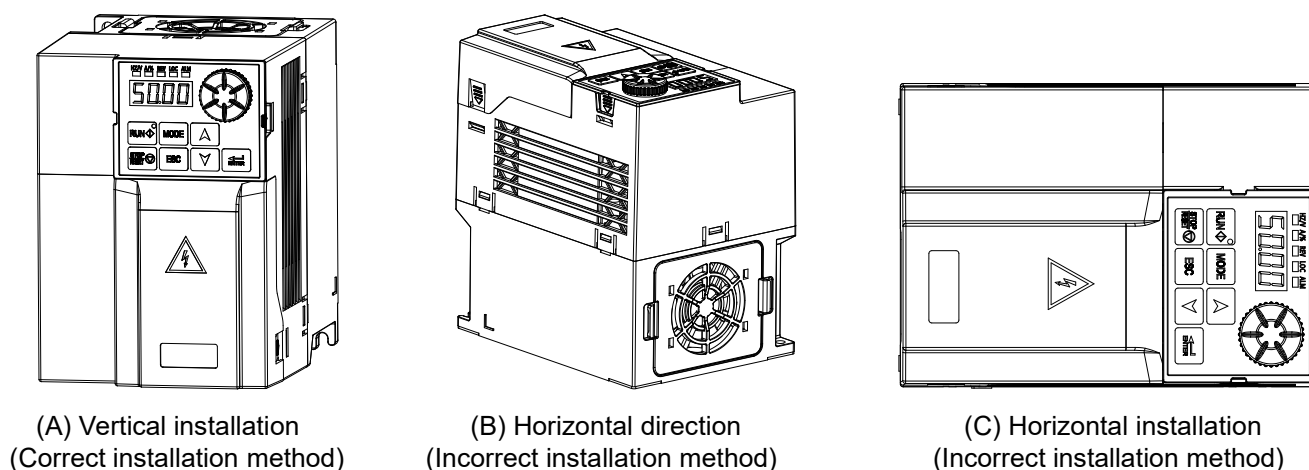

Figure 4.1 Installation direction diagram
(1) The inverter must be installed vertically and not upside down to facilitate heat dissipation upwards, as shown in Figure 4.1;